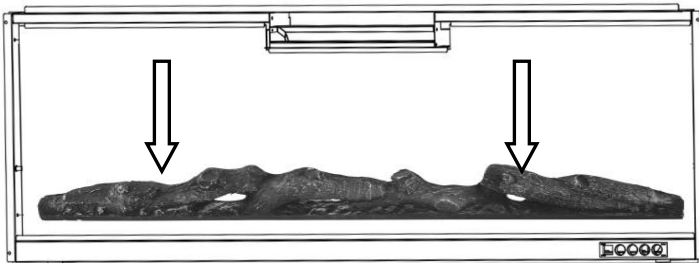

Fig 6-1. (Log-set)
- B. Remove the log-set (**G**) from the package, put it to the fireplace designed place. **Fig 6-1.**